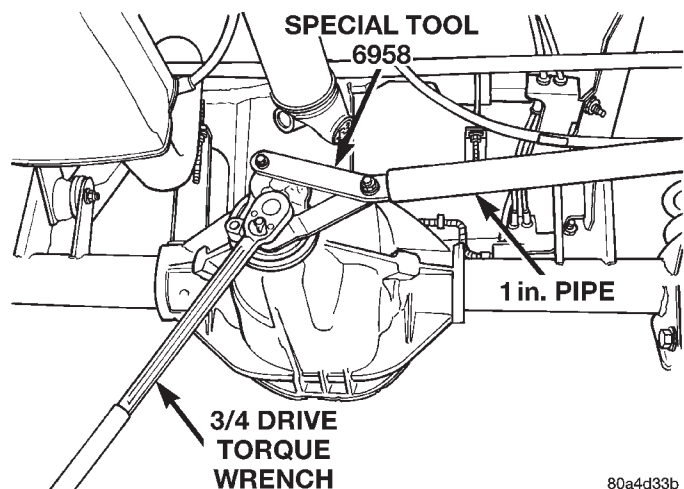

Fig. 15 Tightening Pinion Shaft Nut
(6) If the rotating torque is low, use Holder 6958 to hold the pinion yoke (Fig. 15), and tighten the pinion shaft nut in 6.8 N·m (5 ft. lbs.) increments until the proper rotating torque is achieved.